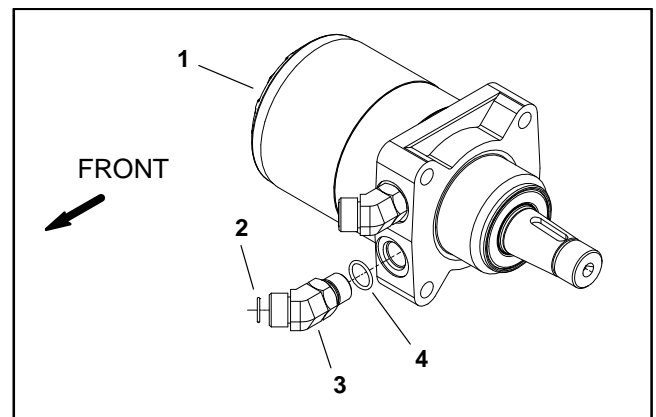

Figure 49
4. Remove wheel assembly (item 1), brake drum (item 23), wheel hub (item 22) and brake assembly (item 3) from the machine (see Brake Service in the Service and Repairs section of Chapter 6 – Chassis).
9. Remove four (4) cap screws that secure wheel motor and brake support to the machine.
11. If removal of wheel motor hydraulic fittings is necessary, mark fitting orientation to allow correct assembly. Remove hydraulic fittings from wheel motor (Fig. 49). Remove and discard O-rings from fittings.